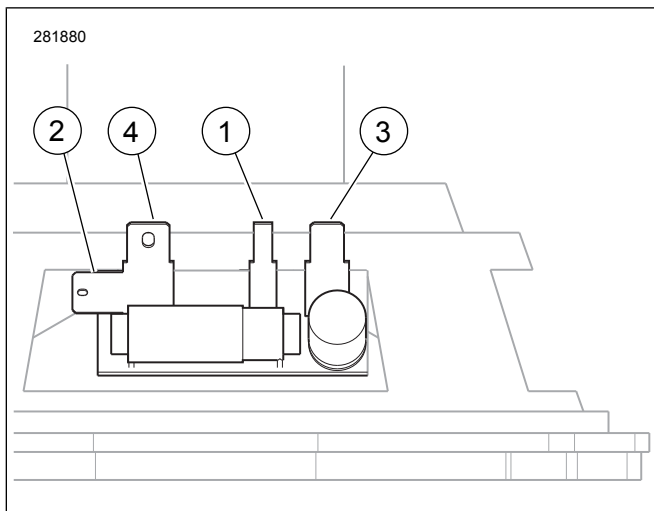

Figure 5. Bagger Speaker Spade Terminals
6. See Figure 5. Install the socket terminals from the vehicle harness to the spade terminals (3) and (4) on the back of the speaker. Different size spade contacts prevent improper assembly.
3. See Figure 5. Connect the wires from the grille-mounted tweeter to the spade terminals (1) and (2) on the back of the speaker. Different size spade contacts prevent improper assembly.